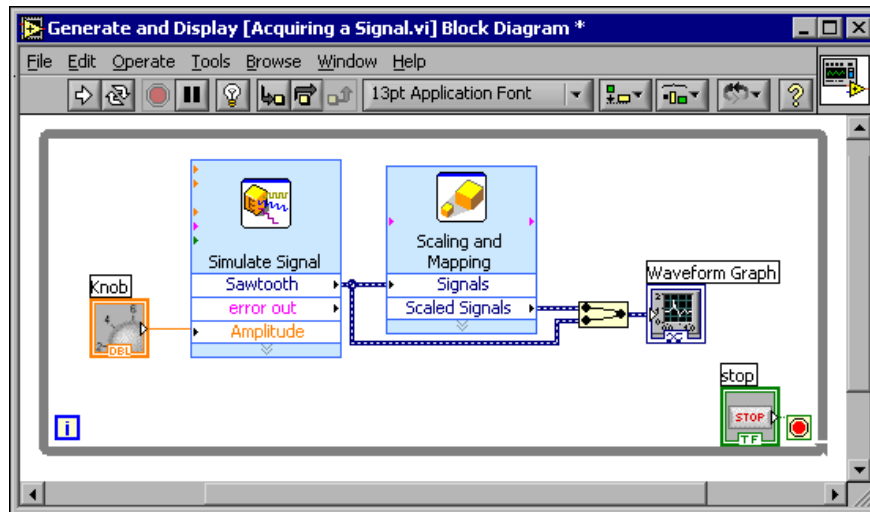

Figure 2.23
2. Using the **Wiring** tool, wire the **Sawtooth** output to the **Waveform Graph** terminal.  The **Merge Signals** function, shown in this media, appears where the two wires connect. This function takes the two separate signals and combines them so that both can be displayed on the same graph. The block diagram should appear similar to Figure 2.23.